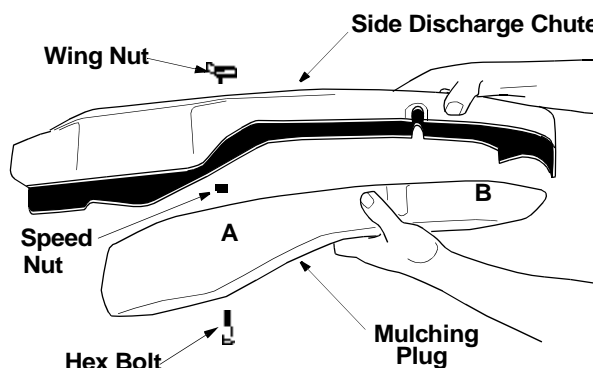

Figure 5
- To assemble the mulching plug, put two hex bolts through the mulching plug at the respective openings. See Figure 5 .
- Place wing nut on each of the hex bolts and thread a few turns. See Figure 5 . Check that the plug is aligned correctly within the discharge chute.